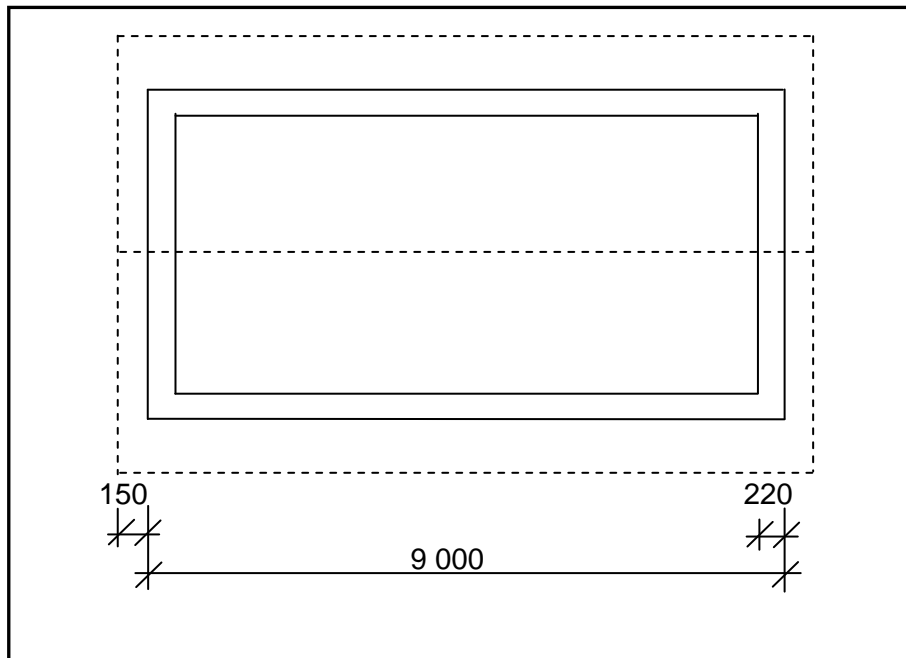

FIGURE 3.5
- 3.5 FIGURE 3.5 below shows the floor plan of a building with a gable roof. The centre-to-centre distance between the roof trusses is 1 300 mm. Study the figure and use ANSWER SHEET 3.5 to answer the questions that follow.